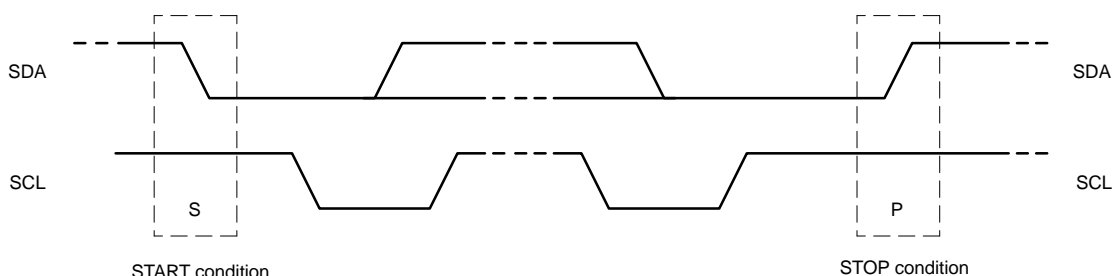

Figure 13. Definition of START and STOP Conditions
HIGH. A STOP condition (P) occurs when there is a LOW-to-HIGH transition of the data line while the clock is HIGH (see Figure 13).